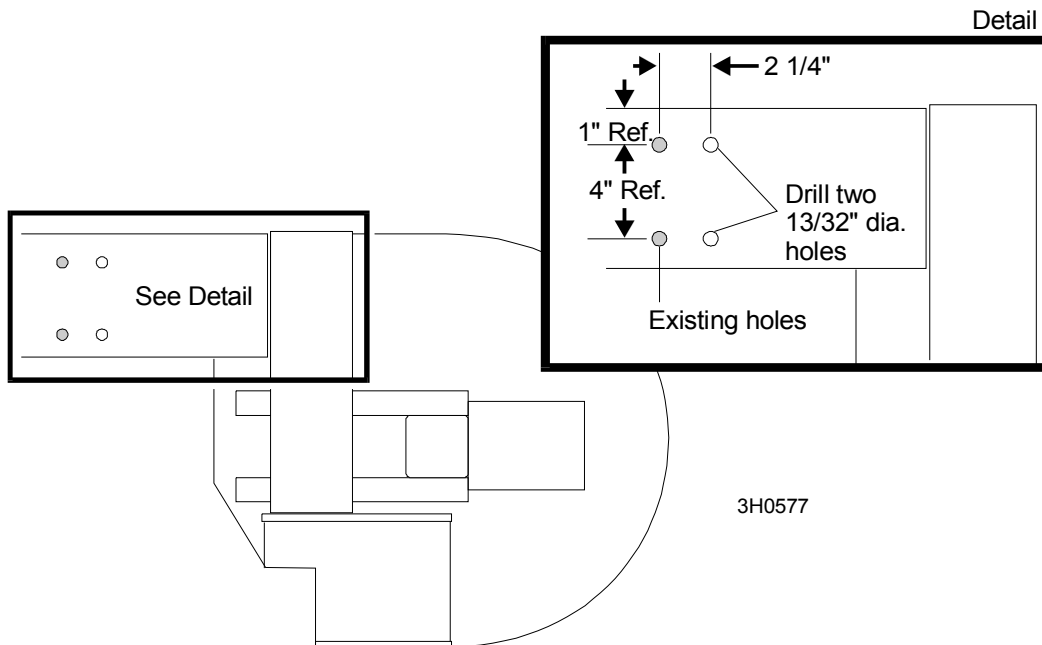

FIG. 2-1
**See Figure 2-1.** Sawmills built prior to March 1998 only have two debarker mounting holes pre-drilled in the saw head. You will need to drill an additional set of two holes at the dimensions indicated. Drill the two  $13/32$ " diameter holes through the saw head tube and the wall of the middle blade housing.